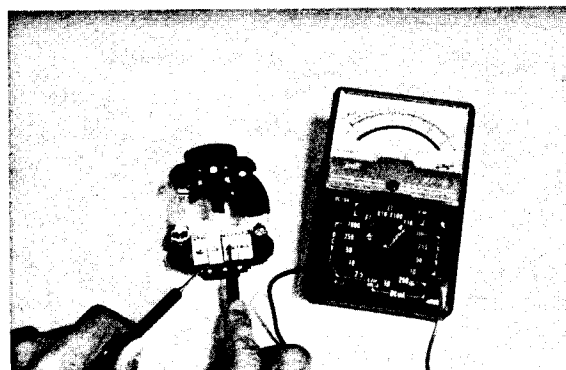

Figure 37
9. Check each diode in the rectifier for conduction (Fig. 37). Connect an ohm meter across the lead wire and diode case. The diode is normal if its resistance is large in one direction and small in the reverse direction. If there is equal resistance in both directions the diode is damaged. Replace the rectifier assembly if a diode is damaged.